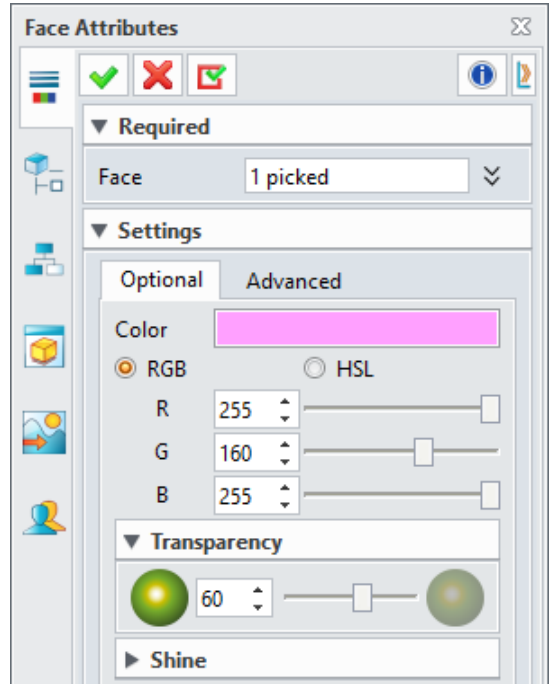

Figure 34 Face Attributes
**STEP 02** For the **Face Attributes** of the thread hole, set the **Color** to be pink and **Transparency** to 60% as shown in Figure 34.